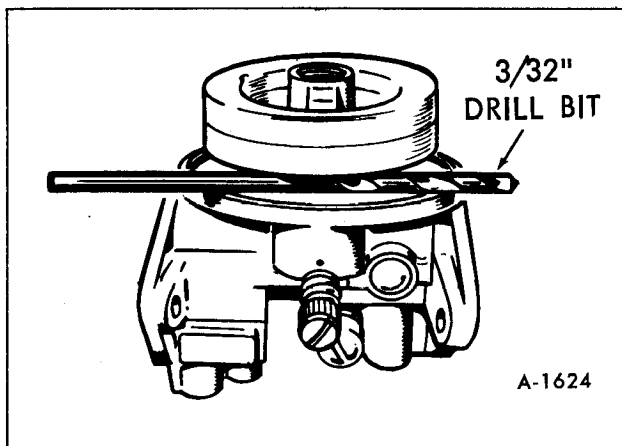

Figure 34—Carburetor Float Adjustment
**NOTE:** A drill bit can be used for this measurement as shown in Figure 34. Use a 3/32-inch drill bit.